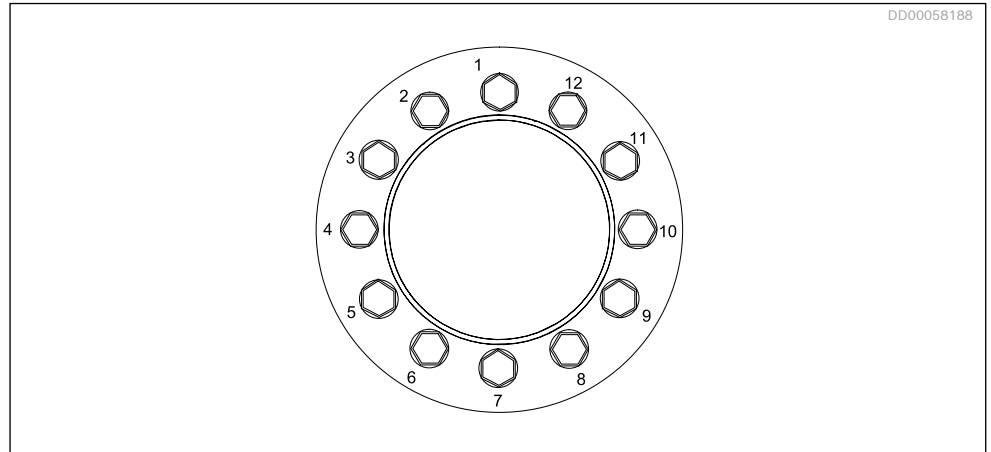

Fig. 39: Tightening order
5. Set the torque wrench to max 1/3 of the specified maximum torque for the coupling screws, tighten all bolts in sequence, shown in *Fig. 39*, for 2 or 3 passes. Increase the torque to max 2/3' of maximum torque and tighten the bolts another 2 or 3 of passes.
7. Start tightening the screws in sequence shown in *Fig. 39*.